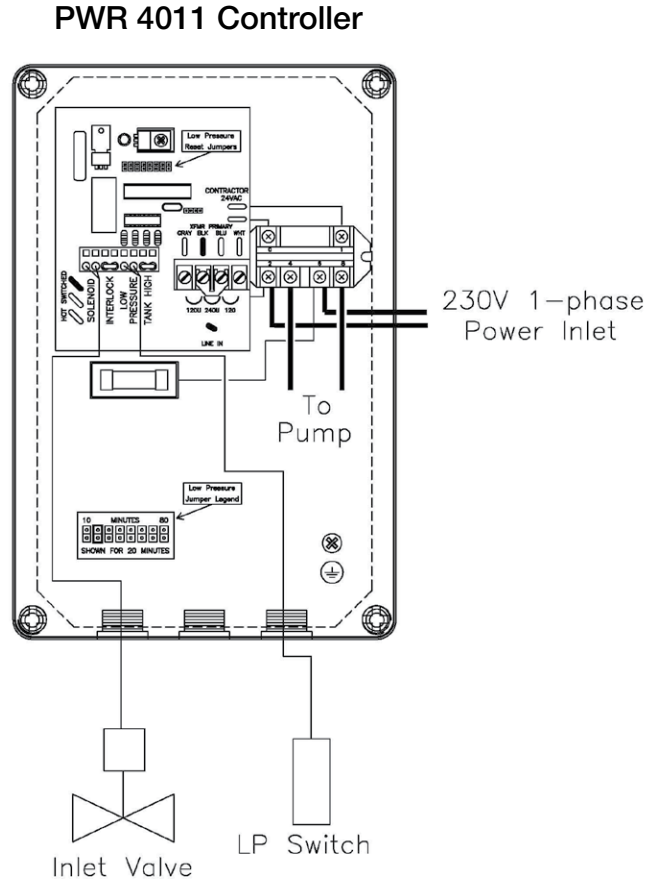

Figure 2
2. Wire the controller to a 230-volt single-phase breaker panel (see figure 2).
4. If the pump suction pressure drops below the pressure switch set point (5 – 8 psi) for five (5) seconds, the RO pump and inlet valve will turn off. A red light on the front of the controller will turn on to indicate that the unit has shutdown due to low pressure. Turn the controller off and back on to reset the unit. The controller is factory set to restart after a 20-minute delay. The delay time can be changed by moving the jumper cap to another position (see figure 2).